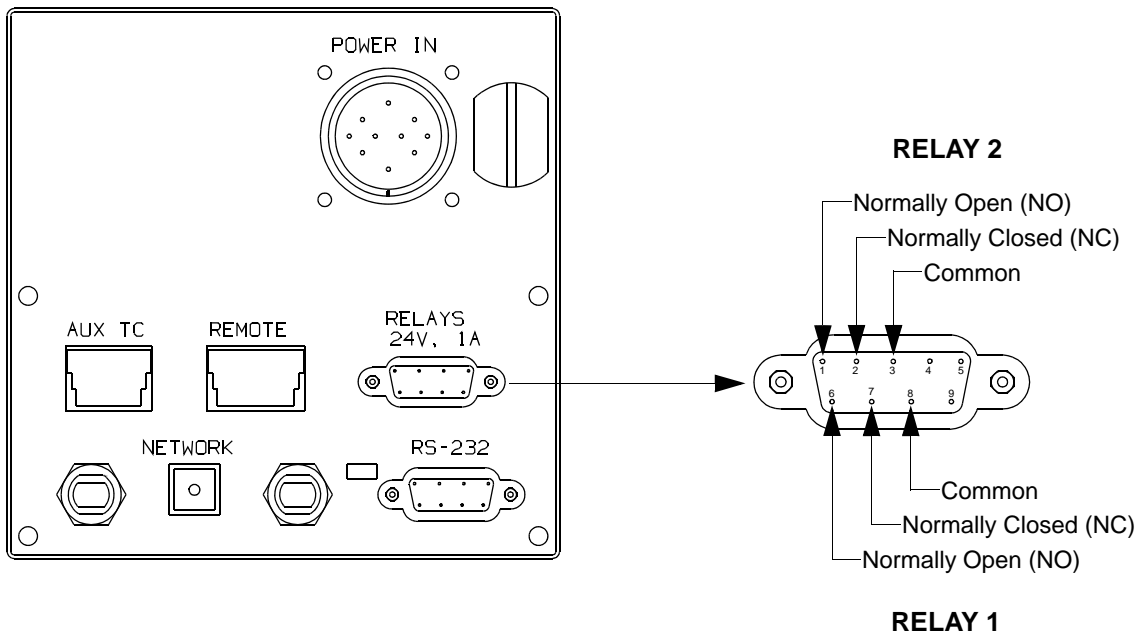

Figure 2-7: Setpoint Relays Connection and Pin Identification
2. Attach the auxiliary TC cable to the tube and to the connector on the On-Board module. Refer to Figure 2-7.
The setpoint relays are two mechanical relays that are incorporated into the On-Board Cryopump for the User's application. The relays are rated at 1 amp at 25V AC/DC. The relays have both normally-open and normally-closed contacts. Connection to the relays is made through the 9-pin D connector labeled (Relays) on the connector plate on the On-Board Cryopump. Refer to Figure 2-7 for pin identification.
When the setpoint relays are used, connection to the relays (R1 and R2) is made via the setpoint relay connector located at the rear of the On-Board controller. If your On-Board Cryopump configuration requires use of the setpoint relays, refer to Figure 2-7 and proceed as follows:
2. Referring to Figure 2-7, prepare a 9-pin DSub mating connector, meeting MIL DTL 24308/1-1 and equipment requirements.